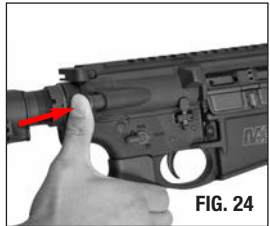

FIG. 24
- If the bolt does not completely close, press the bolt assist (FIGURE 24). This should move the bolt completely forward. If your rifle is not equipped with a bolt assist or the bolt assist does not chamber a round, see the Clearing Misfires section of this manual.